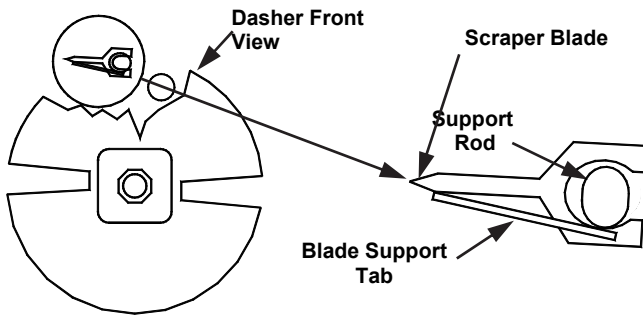
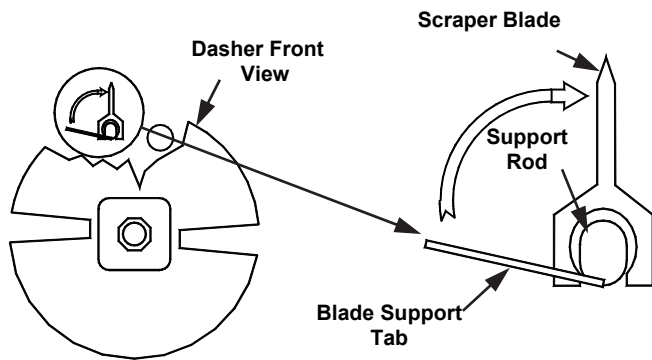

Fig. 11
Fig. 12
- c. Remove the blades from the dasher (Fig. 11) by first rotating blade upward (Fig. 12) and then unsnapping one end from the support rod.